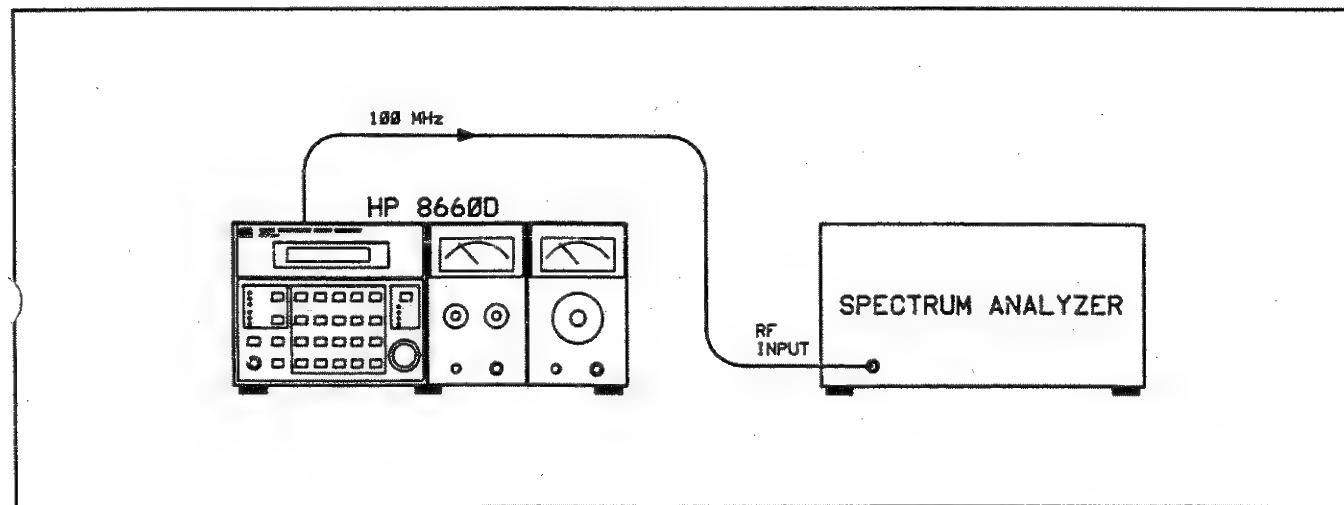

Figure 5-5. RF Level Checks Test Setup
- d. Connect the Spectrum Analyzer RF INPUT to the 100 MHz output of the A4A4 assembly and tune the Spectrum Analyzer CENTER FREQUENCY to 100 MHz. The 100 MHz signal should be $>+10 \text{ dBm}$ (see Figure 5-5 and 5-6).